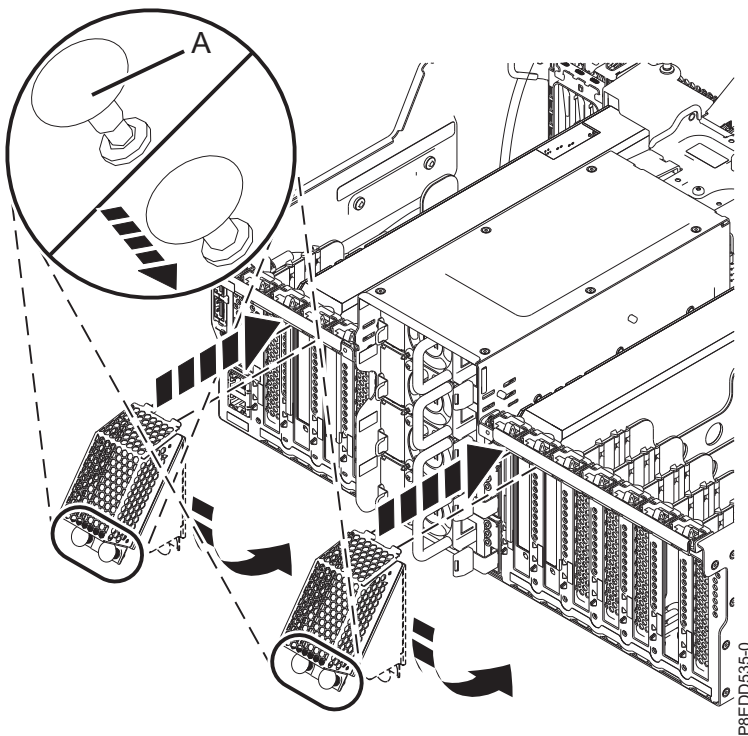

Figure 46. Installing the GPU adapter rear shield
- b. Install the GPU adapter rear shield. Tilt the top of the shield so the tabs fit into the slots in the sheet metal, then rotate down the shield and push the plastic locking pins (A). See Figure 46.